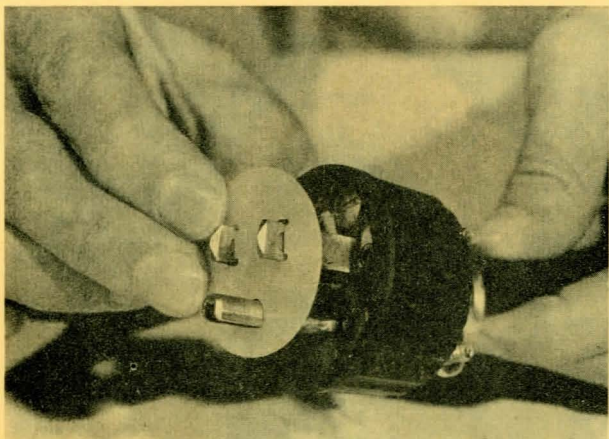

Figure 9
8. Place the cover over the prongs (Fig. 9).